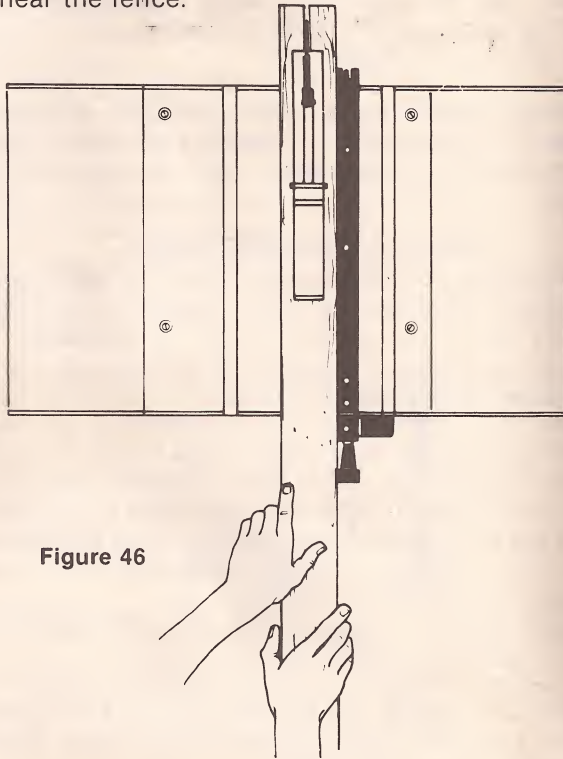

Figure 46
USING THE RIP FENCE figures 46 & 47
Ripping is cutting lengthwise of the material or with the grain. You may rip on either side of the blade because the table accepts the fence on either side. A simple ripping operation is shown in **figure 46**, notice the placement of the hands. Both hands can be used in starting the cut. When there is approximately twelve (12) inches left to be ripped . . . use only one hand, with your thumb pushing the material, your index and second finger holding the material down and your other fingers hooked over the fence as shown in **figure 47**. Always keep your thumb along side your first two (2) fingers and near the fence.